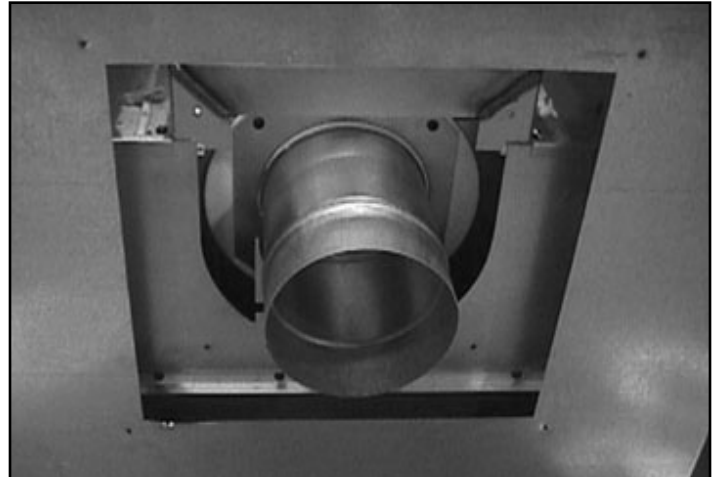

Figure 7.9 Place inner collar on Rear of Appliance
- Place inner collar on appliance back and replace four screws to hold this collar in place. See Figure 7.9. Make sure insulation is attached to the collar base!